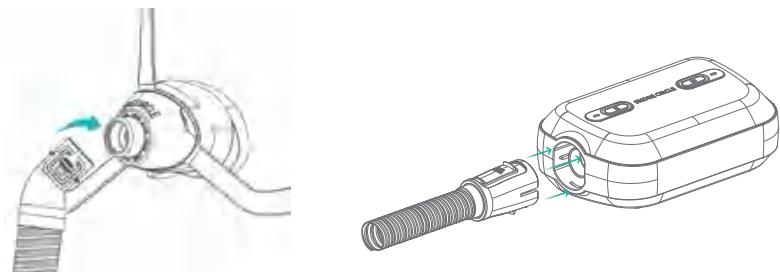

Figure 4-3 Connecting the tubing
1) As shown in Figure 4-3, connect the thicker end of the tubing to the air outlet, clipping it into the corresponding slots until secure.